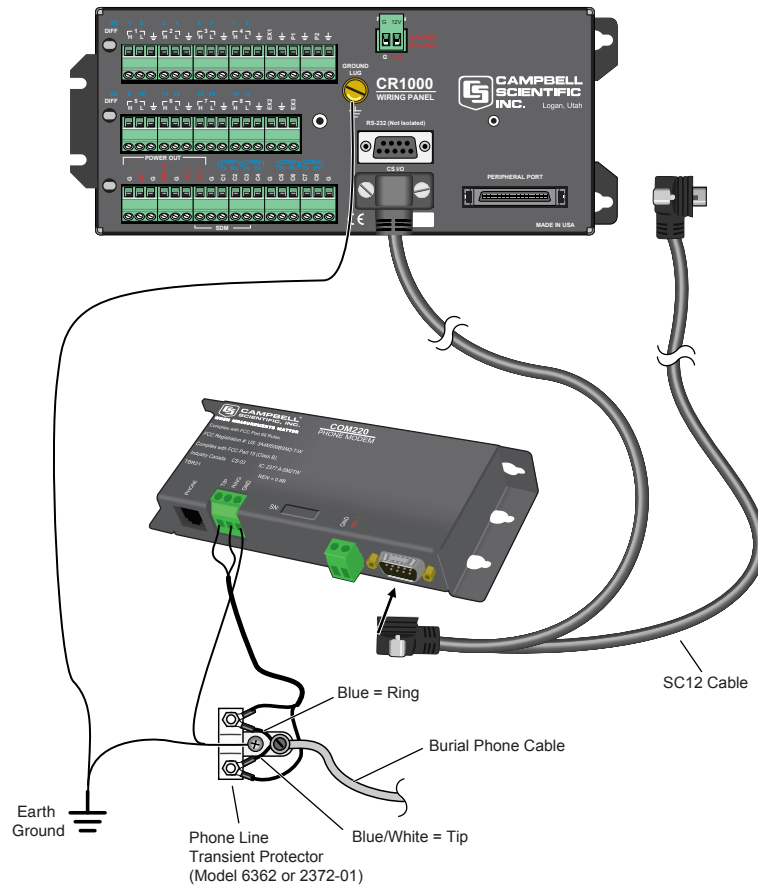

FIGURE 3.3-2. COM220 Modem with Surge Protector
Mount the modem to the enclosure backplate as shown in Figure 3.3-2.
3. The telephone company generally provides surge protection, and a patch cord that plugs into the RJ11C jack. If surge protection has not been provided, the Model 6362 Surge Protector Kit can be installed to the enclosure backplate. Connect the two terminals on the surge protector to the "tip" and "ring" terminals on the modem as shown in Figure 3.3-2.